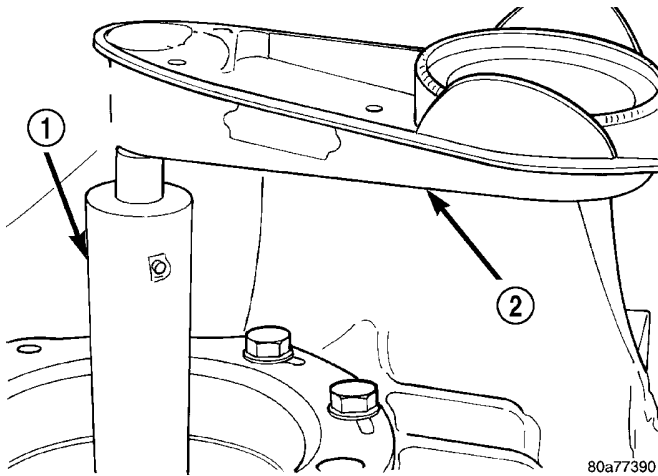

Fig. 89 Checking Differential Bearings Turning Torque
(3) Rotate the differential at least one full revolution to ensure the tapered roller bearings are fully seated.
(4) Using Tool L-4436A and an inch-pound torque wrench, check the turning torque of the differential (Fig. 89). Turning torque should be within 5-18 in. lbs.